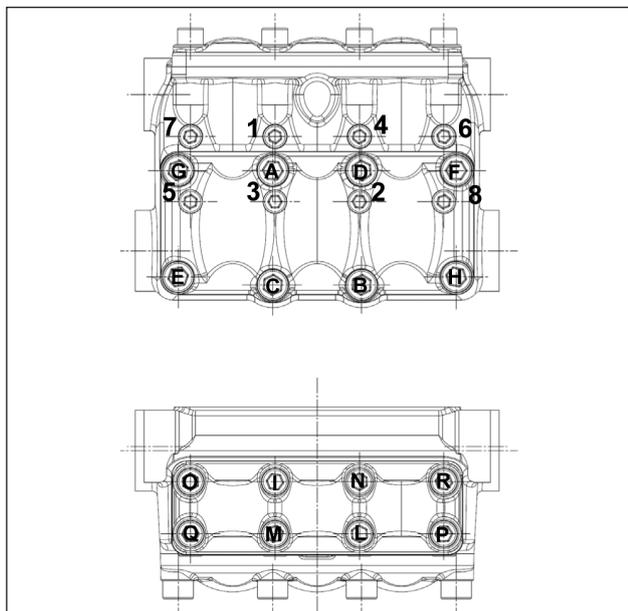

Fig. 30
<p>* The con-rod cap fixing screws must be tightened simultaneously, respecting the phases indicated on page 18.</p> <p>** The head fixing screws exploded view pos. 55 must be tightened with a torque wrench respecting the order shown in the diagram in Fig. 30.</p> <p>*** The valve cover fixing screws exploded view pos. 45 and exploded view pos. 58 must be tightened with a torque wrench respecting the order shown in the diagram in Fig. 30.</p> <p>**** To secure the 2nd PTO flange, use Loctite 243 Blue Code 12006400.</p>